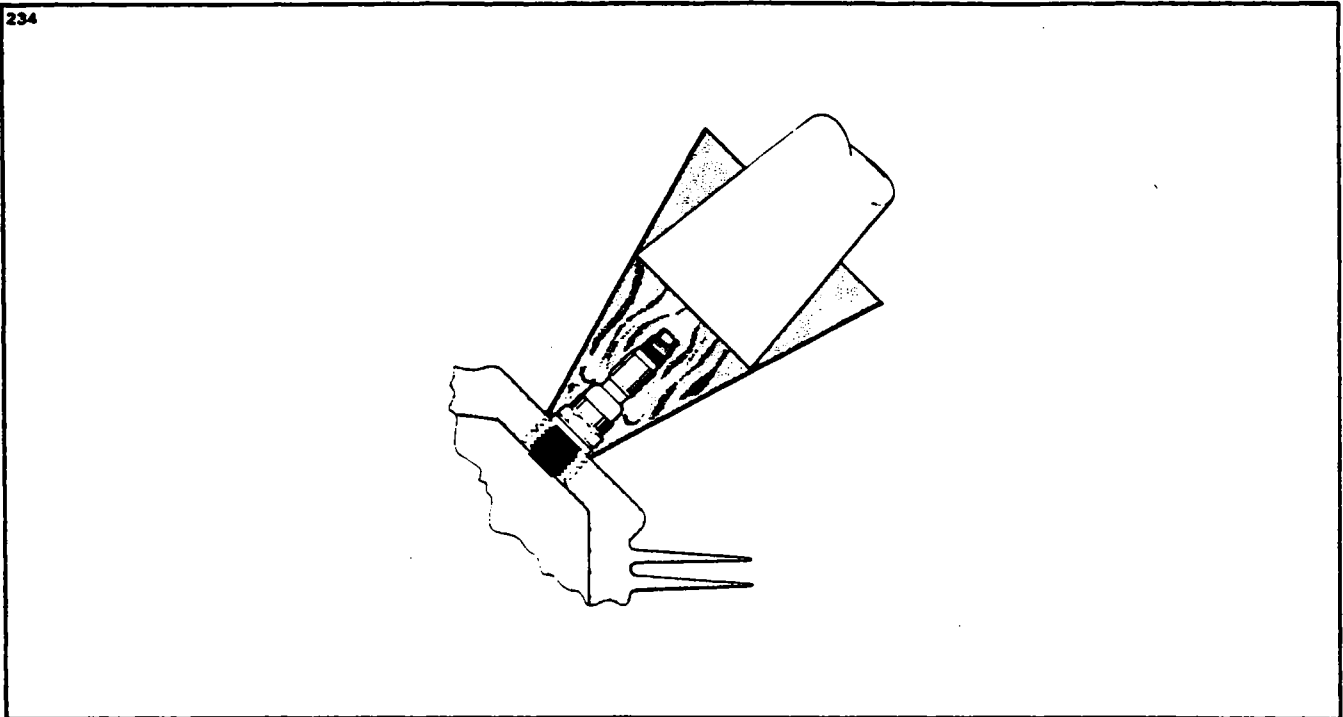

Figure 8-29. Removing Frozen Spark Plug
d. Removal of seized spark plugs in the cylinder may be accomplished by application of liquid carbon dioxide by a conical metal funnel adapter with a hole at the apex just large enough to accommodate the funnel of a CO2 bottle. (Refer to Figure 8-29.) When a seized spark plug cannot be removed by normal means, the funnel adapter is placed over and around the spark plug. Place the funnel of the CO2 bottle inside the funnel adapter and release the carbon dioxide to chill and contract the spark plug. Break the spark plug loose with a wrench. A warm cylinder head at the time the carbon dioxide is applied will aid in the removal of an excessively seized plug.